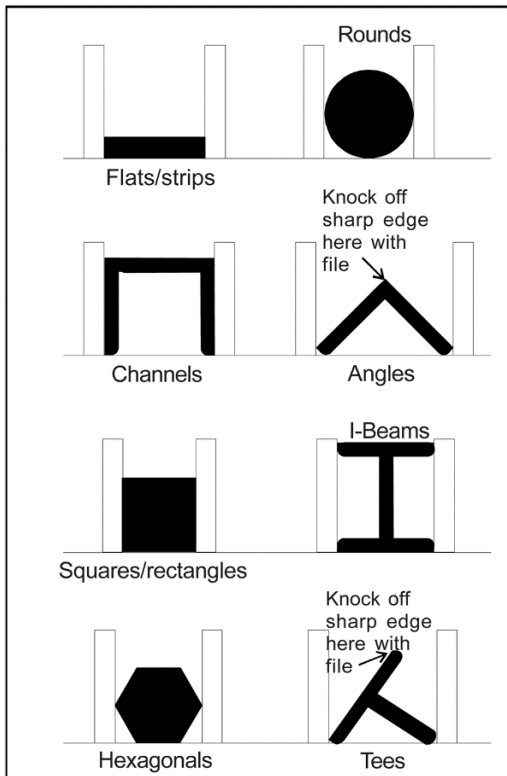

Figure 7-5: positioning in vise
1. Place workpiece between vise jaws with required amount to be cut-off extending past blade. (Figure 7-5 shows recommended positioning of various workpiece shapes within the vise.)